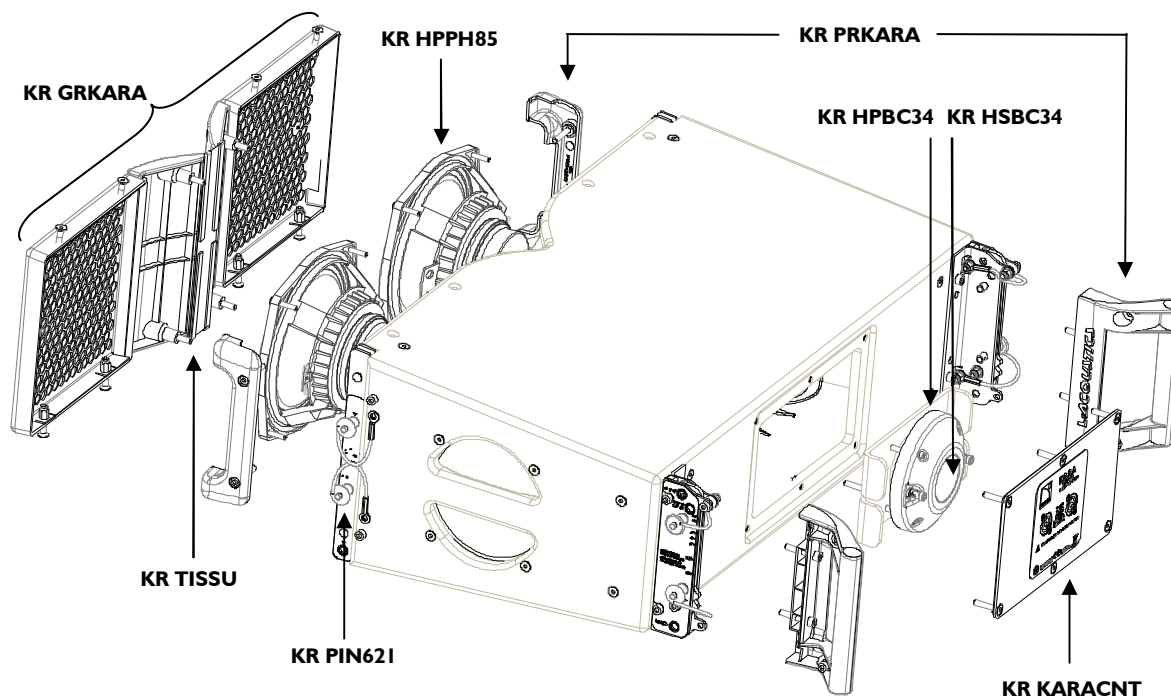

Figure 15: KARA exploded view
The replacement kits (KR) available for the customer are shown in Figure 15 and listed in Table 6 with reference to the corresponding service procedures. Table 7 is a list of all tools and material needed for KARA service (not provided).
1. Insert two hex screws into a front protective element and then insert two BLP sling ends into them (arrange both slings as shown in Figure 15).